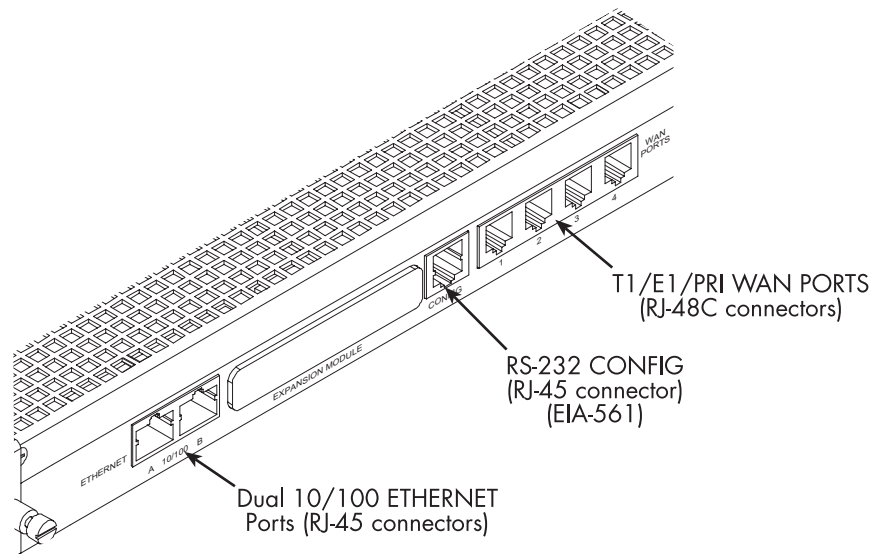
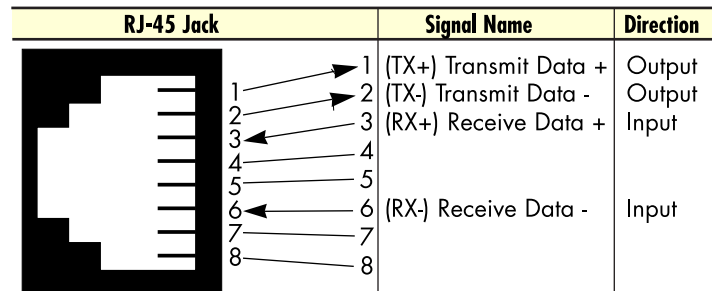
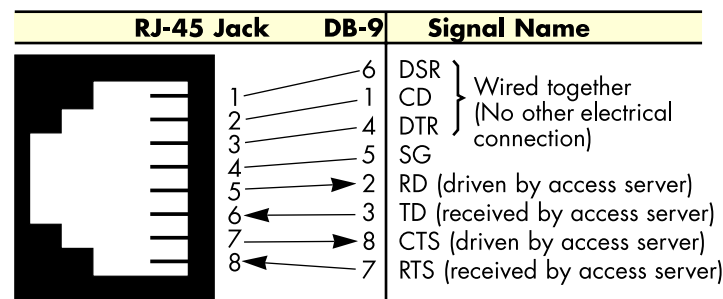

Figure 8. Model 3120 network and configuration ports
Figure 9. Straight-through RJ-45-to-RJ-45 Ethernet cable diagram
Figure 11. DB-9-to-RJ-45 cable diagram
The RAS has two 10/100 Ethernet interfaces for connection to your LAN (see figure 8). The Ethernet port will autosense the correct speed of the local LAN and automatically negotiate half- or full-duplex operation. This section describes connecting the RAS to the Ethernet LAN via an Ethernet hub, switch, or workstation.
Each 10/100Base-T Ethernet port (see figure 8 on page 23) is designed to connect to an Ethernet switch or hub. Connect a straight-through CAT-5 cable (one wired as shown in figure 9) between the RAS and the hub/switch.
Install the supplied DB-9-to-RJ-45 cable between the RAS RS-232 port (see figure 8 on page 23) and an open serial port on your computer. If you need to assemble your own cable, refer to the pinout diagram in figure 11.
1. If you have not done so already, install the supplied DB-9-to-RJ-45 cable between the RAS RS-232 port (see figure 8 on page 23) and an open serial port on your computer.